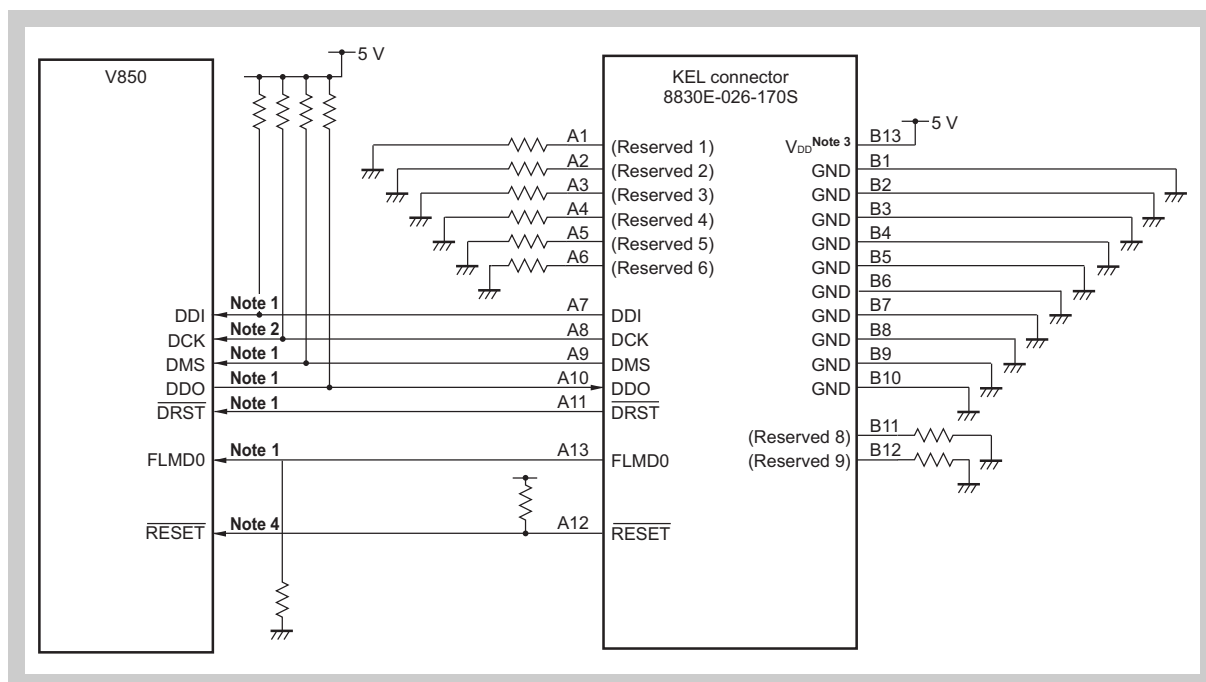

Figure 25-6 Example of recommended emulator connection circuit
4. In a system that uses only POC reset and not pin reset, some emulators input an external reset signal as shown in *Figure 25-6* to set the OCDM.OCDM0 bit to 1.